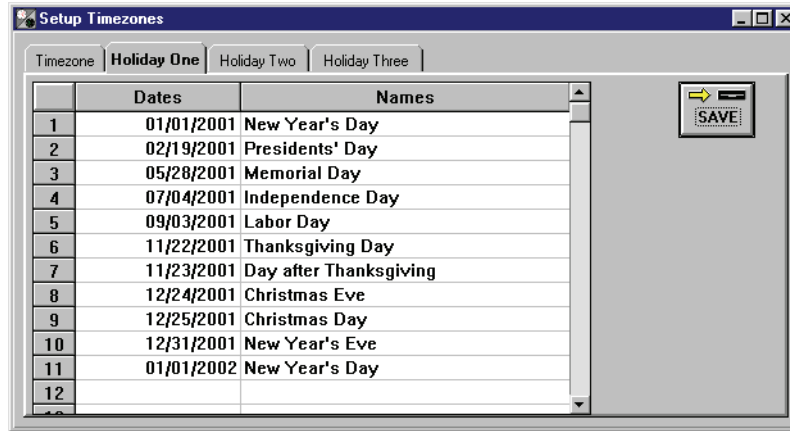

Figure 3-9: Holiday One Example Schedule
- When complete, the holiday one schedule should appear similar to Figure 3-9 on page 14 of this section. Any discrepancies can be corrected by clicking on the cell or field and making the correction.
2. Click on the Holiday One tab. The holiday one schedule is displayed (see Figure 3-9 on page 14 of this section).